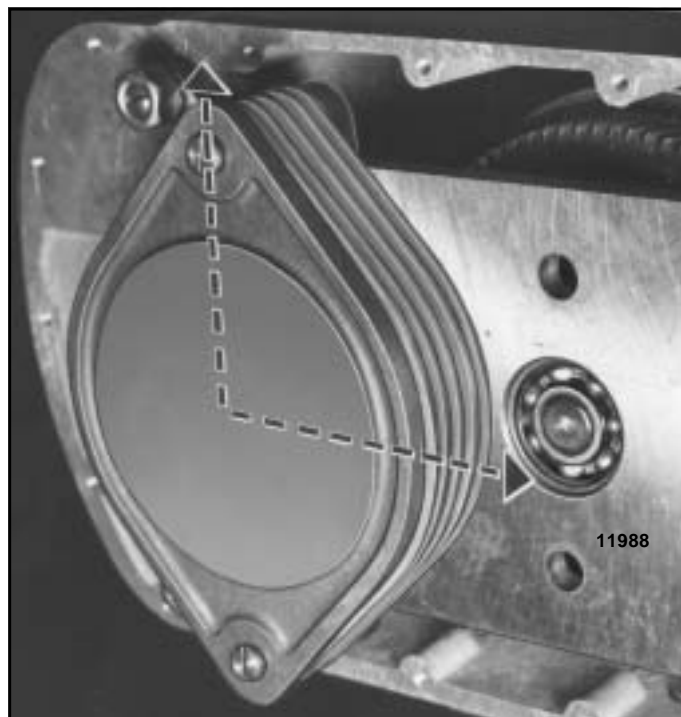

Figure 5-3. Motor Brake Friction Plates
- To check motor brake friction surfaces (Figure 5-3), drain oil from gearcase. Disconnect solenoid coil leads. Remove hex head cap screws securing gearcase cover to gearcase. Remove gearcase cover and attached motor brake actuating mechanism from gearcase.
- Remove retaining rings from the brake pilot studs and lift off the compression plate. Lift off washer and lining assemblies, release springs, and motor brake plates. (Note for reassembly, that two of the washer and lining assemblies have friction surfaces on one side only and must be replaced at each end. Three washer and lining assemblies, with friction surfaces on both sides and release springs are replaced between the motor brake plates; see Figure 5-3). Check motor brake plates for warping, scoring or other signs of deterioration. Also check spline fit of motor brake plates to the brake hub for gouging, mushrooming of the plates or other signs of distress or wear. Replace plates if these conditions are found. Brake plates which are replaced because of spline wear should also receive a replacement brake hub. Check condition of friction material on the washer and lining assemblies, and replace assemblies if required. Reinstall brake plates, release springs, and friction washers in sequence as shown in Figure 5-3 and replace retaining rings. On the Size 3 hoist it is possible to get the lining assemblies misoriented. When installed properly the friction linings will be on a horizontal line (not vertical). Clean and flush gearcase and replace gearcase cover using a new gasket. Refill with new lubricant.